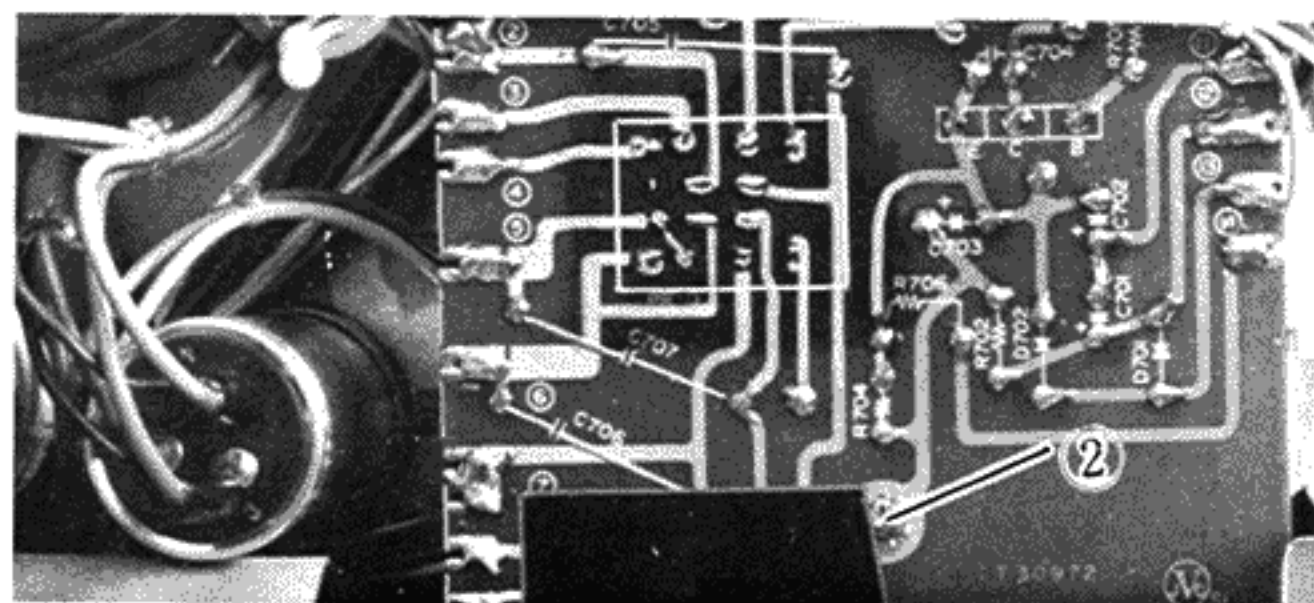

Fig. 11-2
2) Direction selector circuit board (Fig. 11-2)